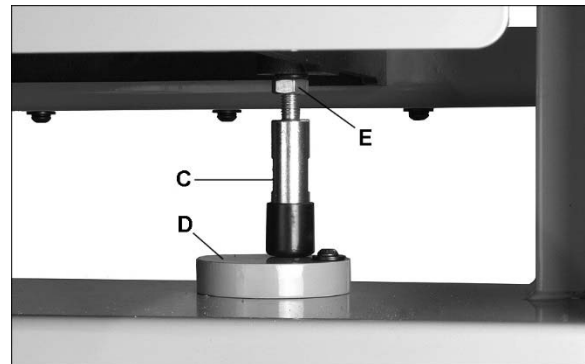

Figure 20: table stop
4. Tighten lock lever (A, Figure 20) to secure setting.
Also, the lever (A, Figure 20) can be pivoted to a more convenient position. Simply lift straight out on the lever and rotate it on the pin, then release the lever making sure it seats itself on the pin.